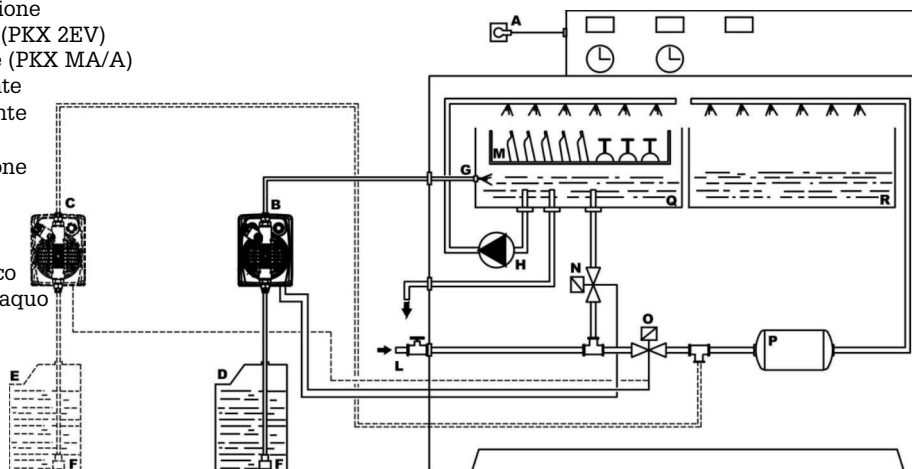

Fig. 13
5.4 - SCHEMA DI IMPIANTO TIPICO LAVASTOVIGLIE A TUNNEL A DUE ELETTROVALVOLE (Fig. 13)